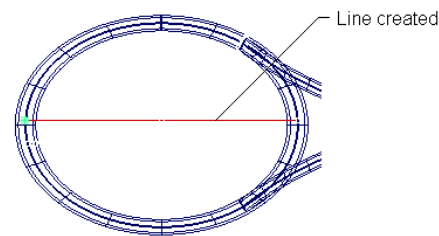

Figure 3-84 One horizontal line created
3. Choose the **Pick Nothing** tool from the **Pick** tab in the **Palette** to display the line created in the previous step, as shown in Figure 3-84.